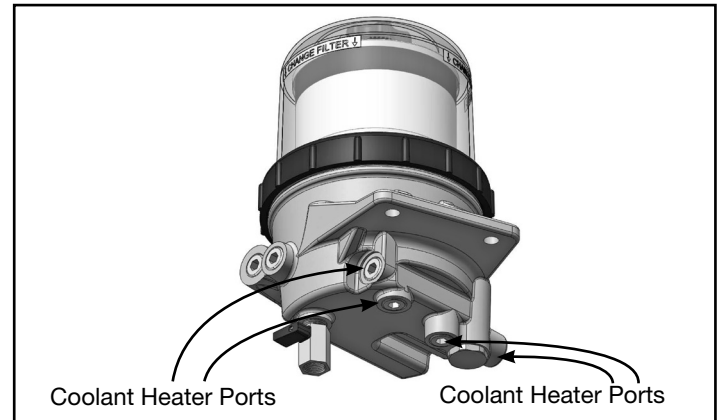

Figure 1: Coolant Heater Port Locations
7. Remove plugs from the selected coolant heater ports (Figure 1). The ports are plugged at the factory for pressure testing and cleaning.